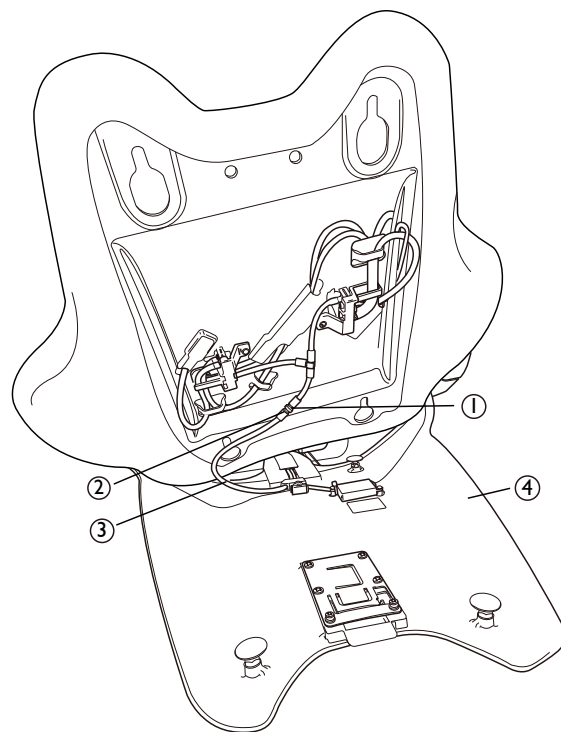

Figure 3 Backrest Air Connection
1. Connect the Inline QD Swivel connector (Figure 3, item 1) from the upholstered backrest to the mating connector (item 2) on the gray 1/8" ID tubing (item 3) as shown.
2. Install the backrest upholstery to the metal back (item 4).